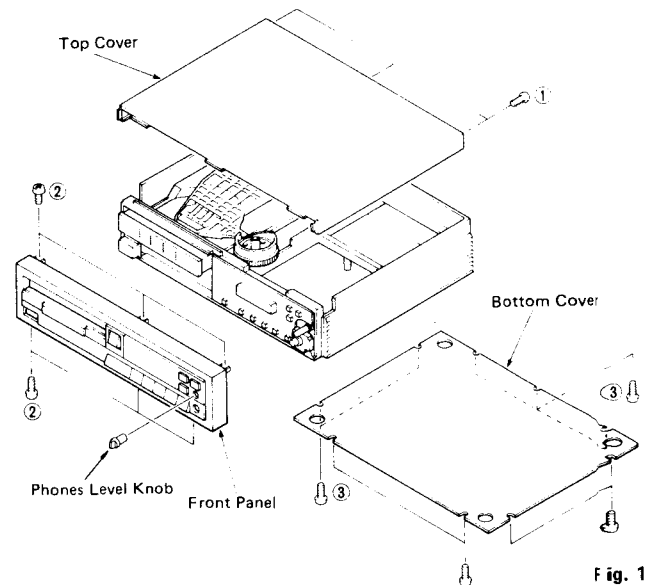

Fig. 1
- Remove 3 screws (①) in fig. 1, and slide the Top Cover to the back side.
- Remove the phones level knob in fig. 1.
- Remove 6 screws (②) in Fig. 1, and pull the Front Panel forward.
- Remove 9 screws (③) in fig. 1.